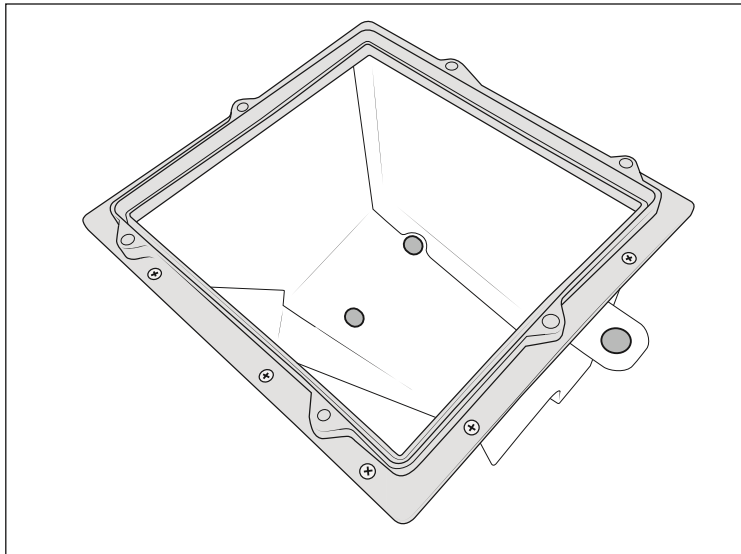

Figure 14
3. Using the 9 supplied screws, attach the adapter ring to the top flange of the airbox (fig. 14).
4. Install the three rubber grommets, saved earlier, into the lower airbox (fig 14).